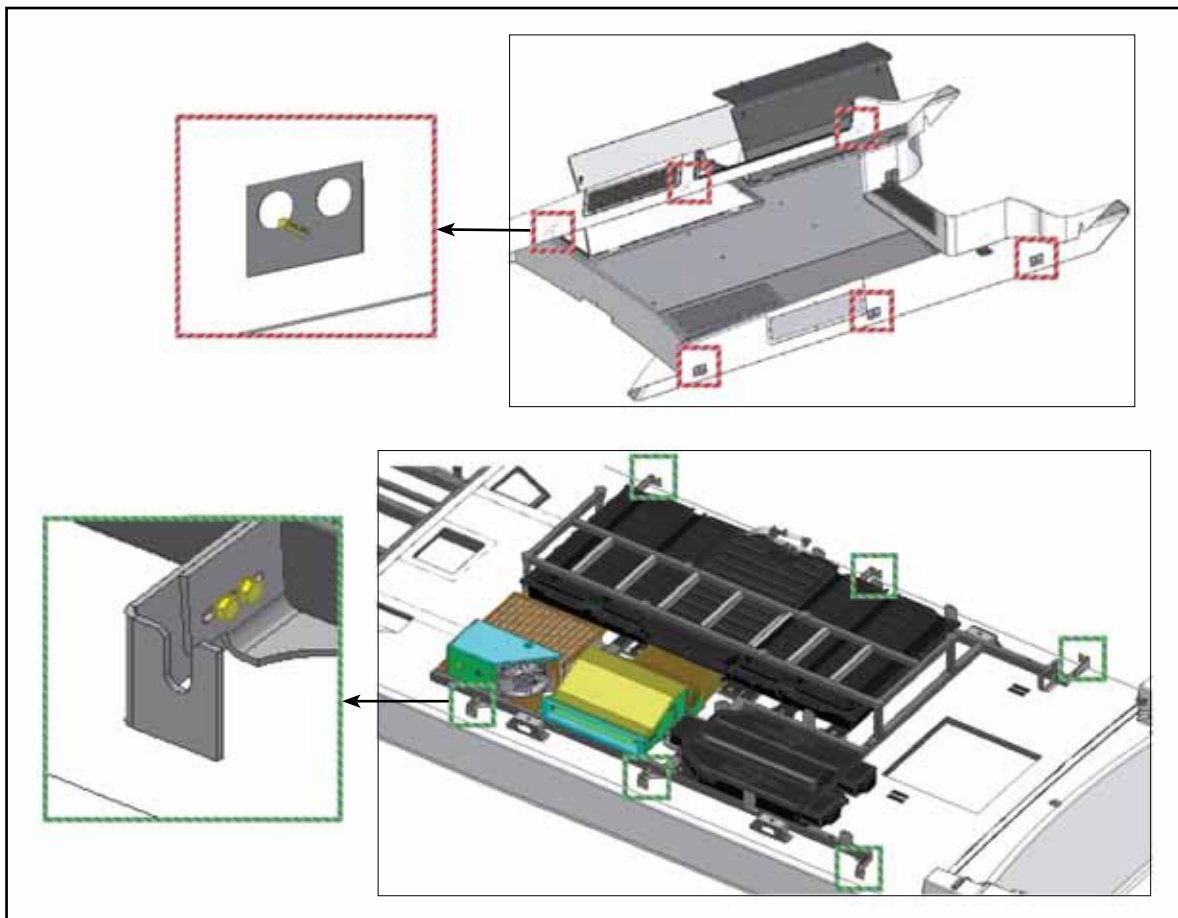

Figure 5 - Position of the Roof Restraint Supports
1.5. Loosen the nuts on the threaded rods on both sides of the vehicle (6 in total). See Figures 5 and 6.